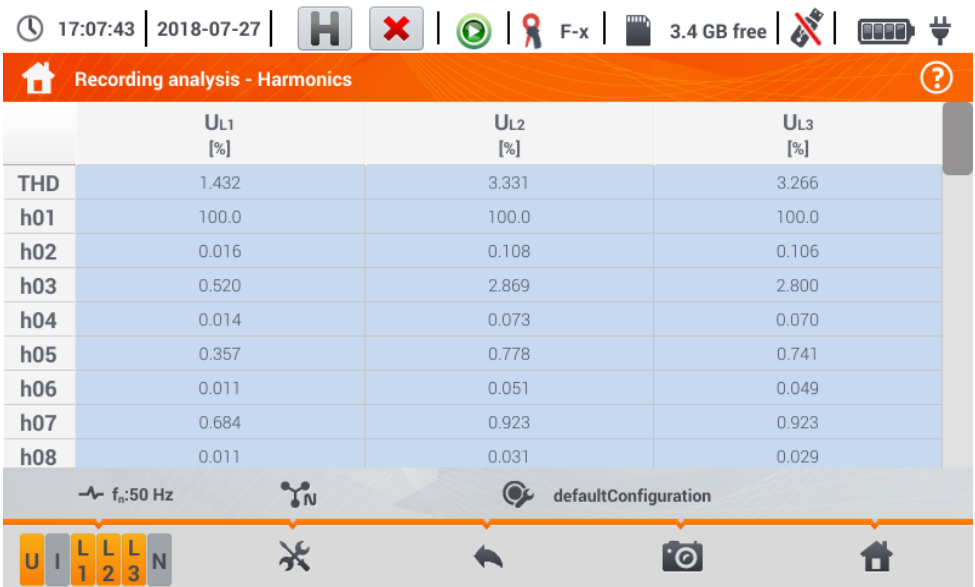

Fig. 5.24. Live mode - harmonics - tabular view
- switching to tabular view of harmonics (Fig. 5.24). Each row in the table displays the values of harmonics (harmonics up to the 40th and additionally for the **[%]** mode – also THD)